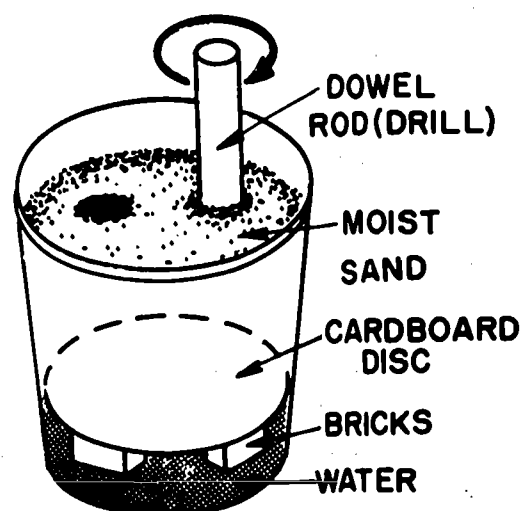

Fig. 84-1. Material Setup for Demonstration
3. Set up the materials as shown in Fig. 84-1. Do not insert drill yet.
4. Using the sharpened dowel as a drill, rotate it between your hands to sink two shafts down through the sand and cardboard into the underground deposit. Wiggle your drill around to make sure the shaft hole is big enough. See Fig. 84-1.